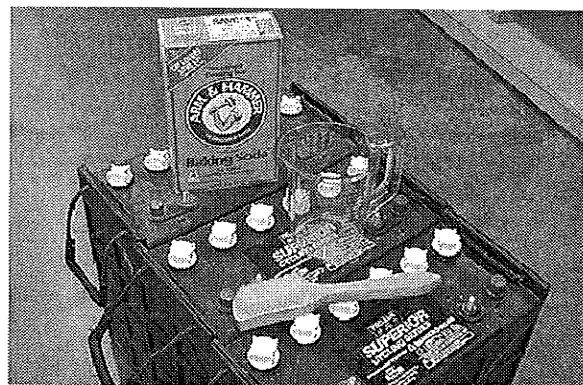

FIG. 37
- a. Mix a strong solution of baking soda and water (Figure 37).